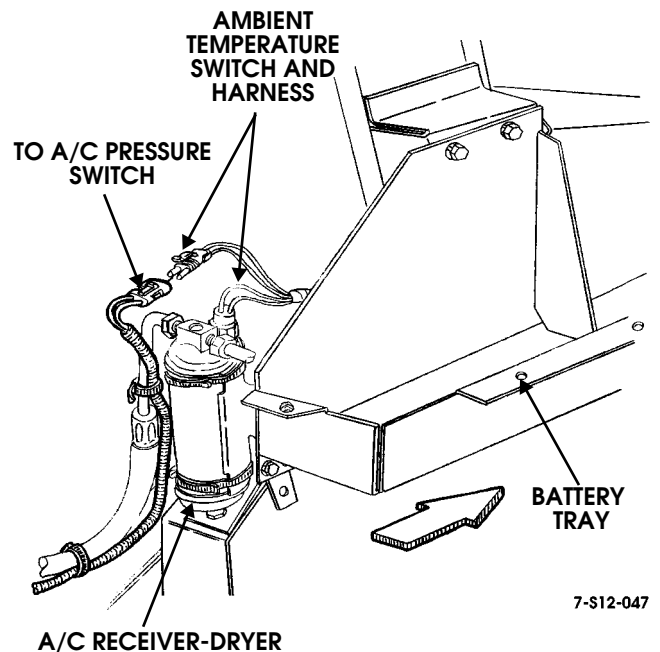

Figure 12-59: Engine Harness Connections at Receiver-Dryer
- A/C pressure switch and ambient temperature switch wires (Figure 12-59)